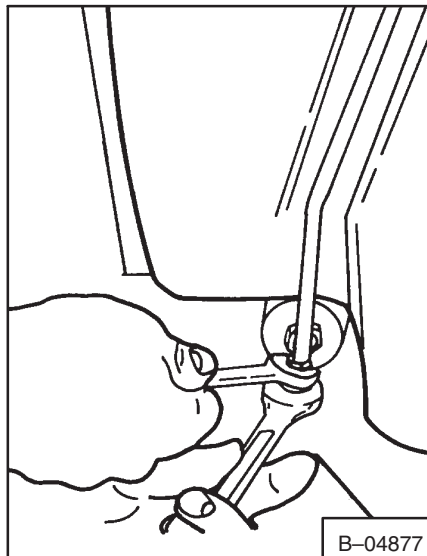

**Fig. 5-49** Disconnecting Sender Wire
3. Disconnect the wire from the connector in the operator guard (Fig. 5-49).